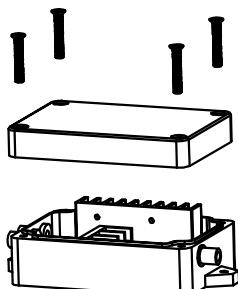

FIG 1
1. Loosen the 4 screws of the controller box and open the cover. (Ref. FIG 1).